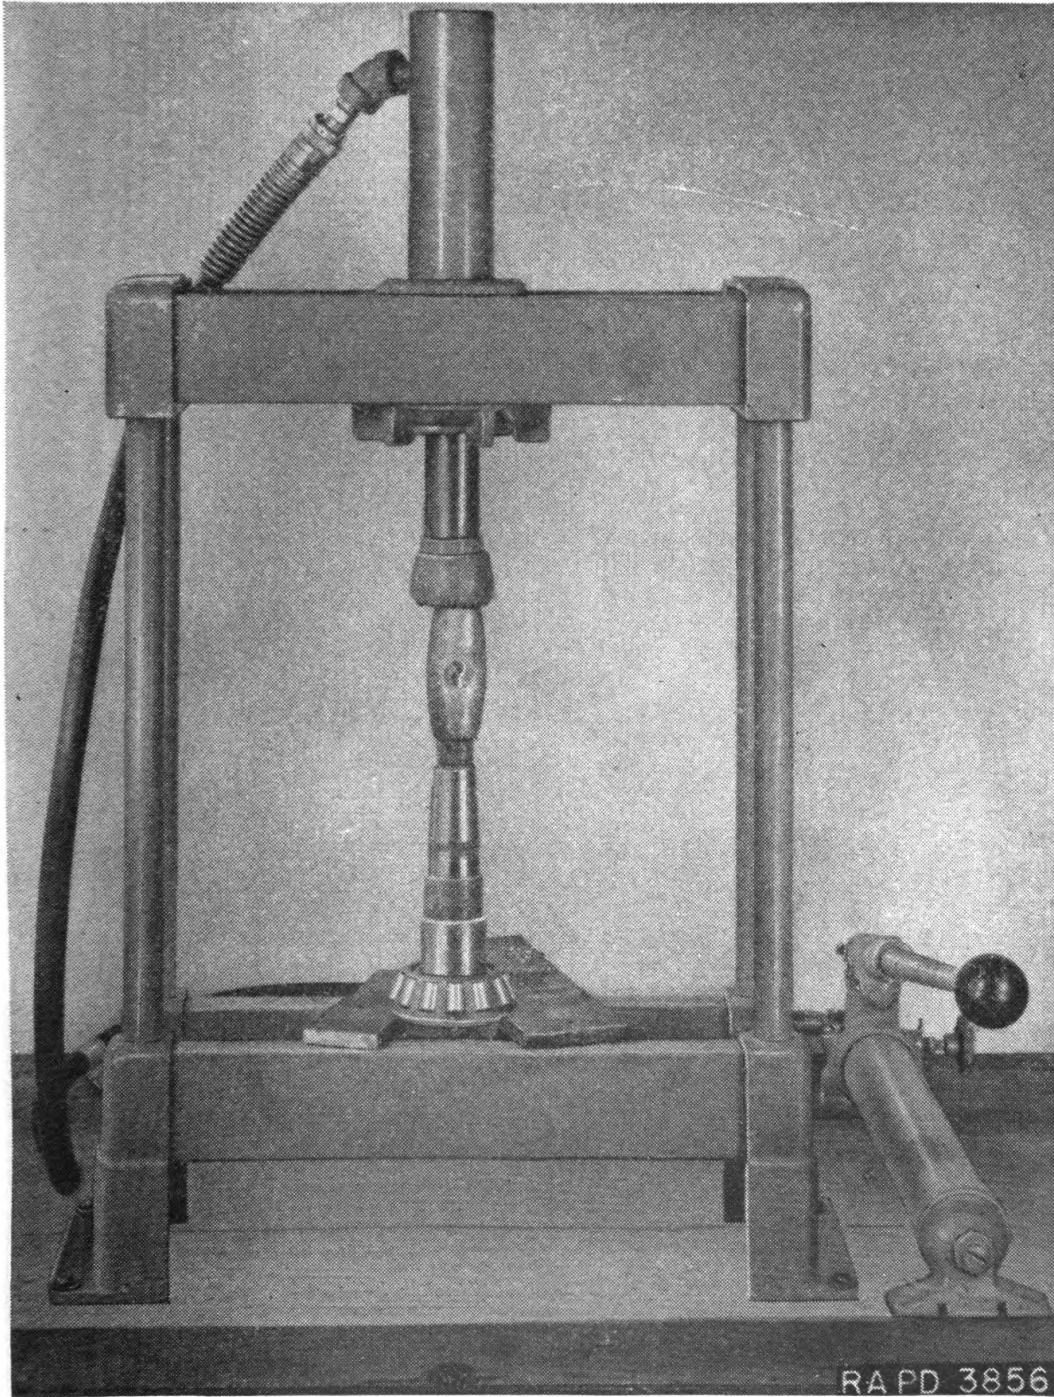

FIGURE 25.—Pressing off front axle drive pinion inner bearing cone.
(8) Remove inner bearing cone—press. Press inner bearing cone off shaft (fig. 25). (This may also be done with a bearing puller.)